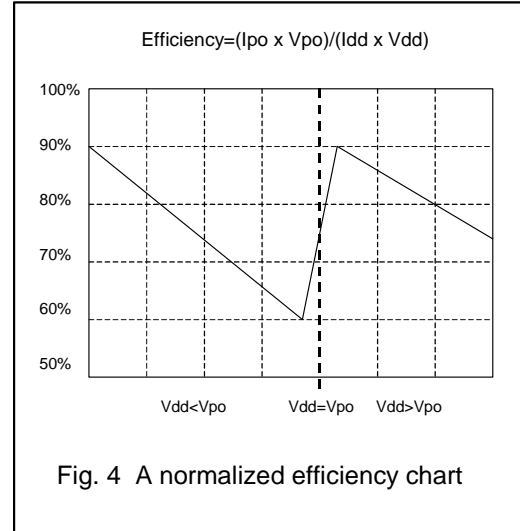

Fig. 4 A normalized efficiency chart
3) $Epo = (Ipo \times Vpo) / (Idd \times Vdd)$ , See Fig. 4.